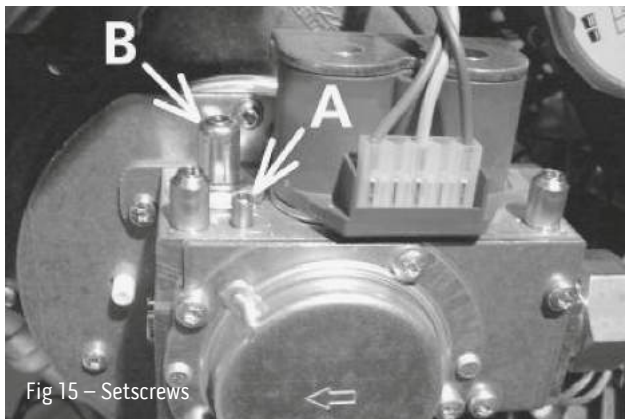

Fig 15 – Setscrews
4. Measure the CO₂ percentage and compare it with table 1 (page 33). The CO₂ percentage can be adjusted using the “Full Load” Setscrew (A) on the gas regulation unit (see Fig 15). The CO₂ percentage can be increased by turning the setscrew to the left.
2. Measure the CO₂ percentage and check it against table 1 (page 33). The CO₂ percentage can be adjusted using the “Low Load” Setscrew (b) (2mm Alan Key) on the gas regulation unit (see Fig 15). The CO₂ percentage can be increased by turning the setscrew to the right.